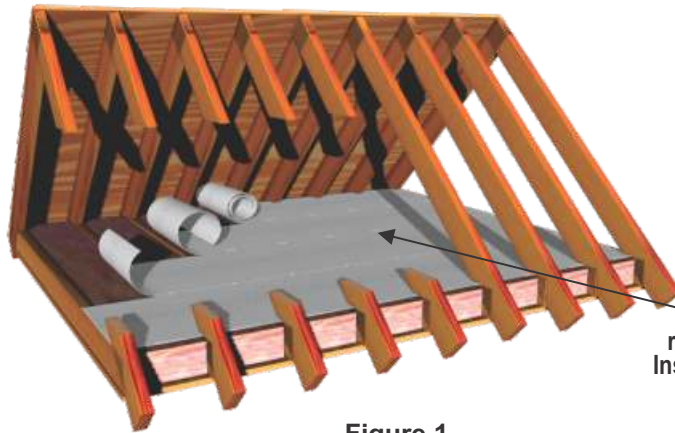

Figure 1
2. As shown in Figure 1 and 2, the radiant barrier material should be installed perpendicular to the floor joists.